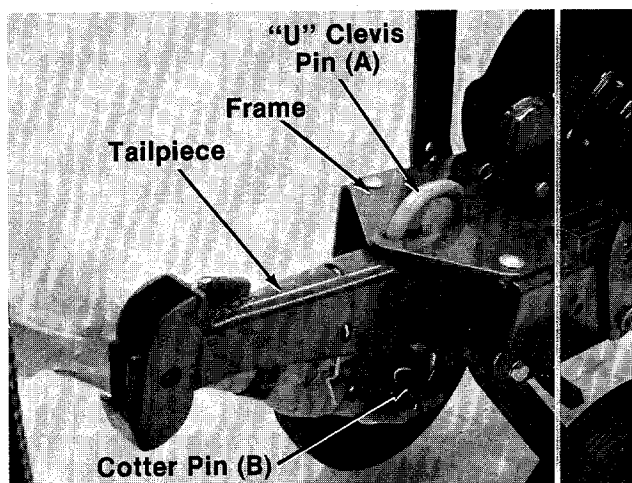

FIGURE 3.
Slide the tailpiece into the frame. Secure with "U"-clevis pin (A) and cotter pin (B). See figure 3.